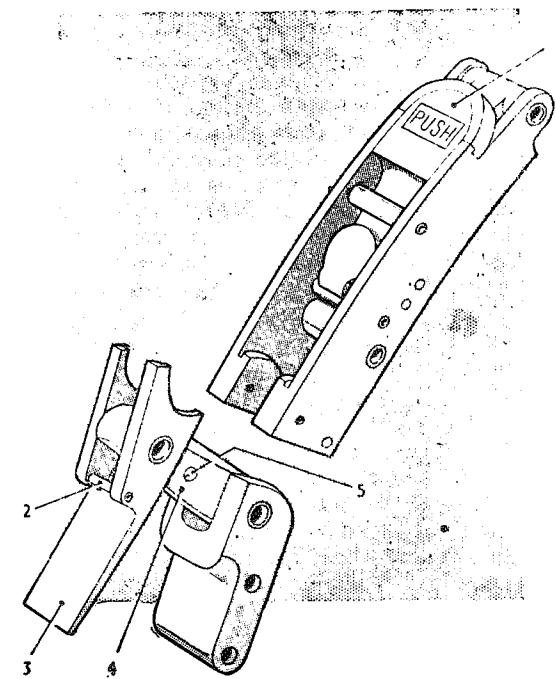

Fig. 1. Toggle fastener
7. Certain removable panels are secured in position by toggle fasteners (fig. 1). To open these fasteners, the catch lever (1) marked PUSH is depressed with the forefinger, causing the hook integral with this lever to disengage from pin (2) in the toggle lever (3), withdrawing it from the housing and thus disengaging the fastener. For re-engagement, the hooks on the end of the toggle lever are engaged in the recess and the lever pressed